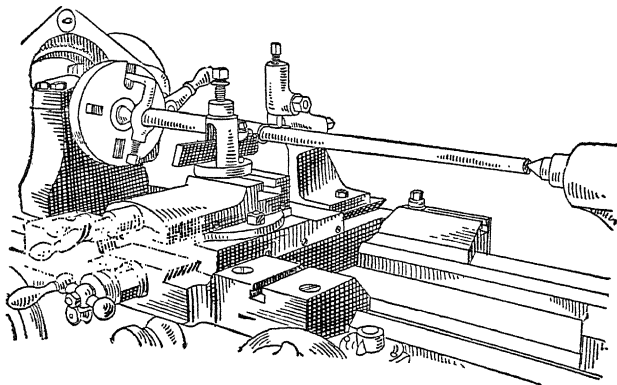

FIG. 104.—Using the follower rest.
**120. The Follower Rest.**—The follower rest (Fig. 104) is used to prevent slender work from springing away from the tool during the cut. The diameter is turned for a short distance to the desired size and the two jaws are adjusted to this diameter. As the follower rest is bolted to the carriage and